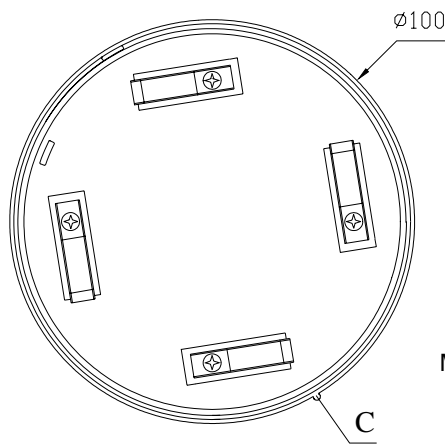
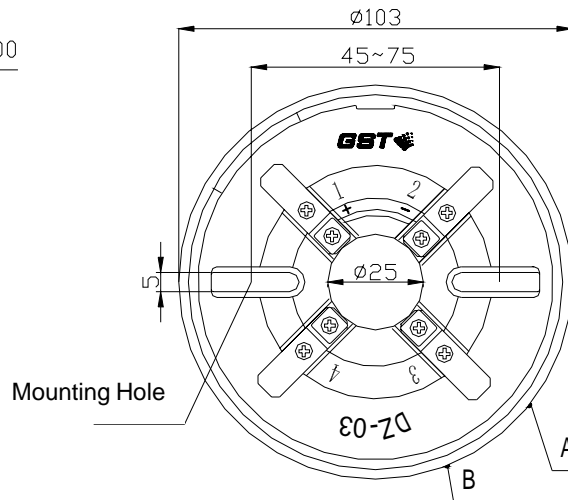

Fig. 3
Fig. 4
2. The bottom of the detector and orientation base are shown in Fig. 3 and Fig. 4. There are four terminals with numbers on the base, "1" connects with the anode of the output end of compatible control panel, "2" connects with the power anode of the next detector as output (terminal No. "1"), "3" connects with the power cathode of the next detector (terminal No. "3") and the cathode of the output end of compatible control panel, "4" doesn't connect with any wires but is used to fix the detector accessorially. There are location elements on the detector and the orientation base to ensure there is only one installing position. There are two marks